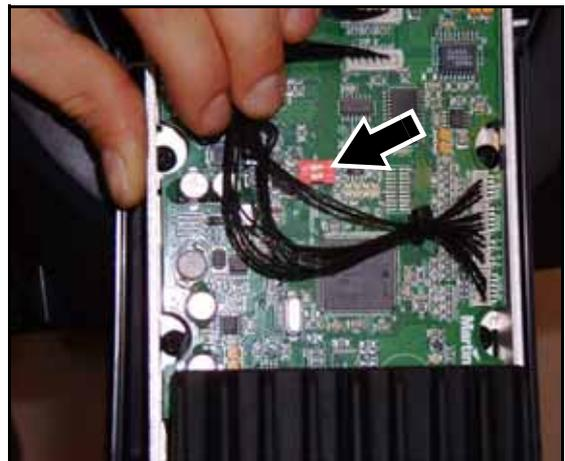

Figure 10: 2-pin DIP switch for boot mode upload
3. See Figure 10. Locate the 2-pin DIP-switch (arrowed) on the PCB and move pin 1 to **ON** (Boot mode upload enable).